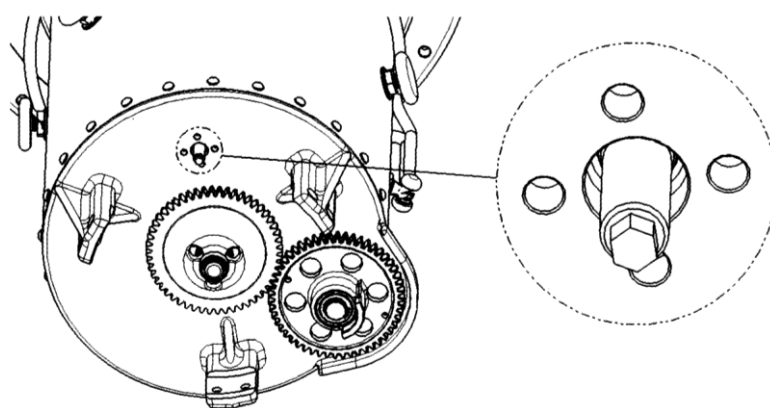

Figure 41
- 1) Turn clockwise to loosen the oil drain stopper between the oil compartment bottom and the tap selector. (Figure 41)